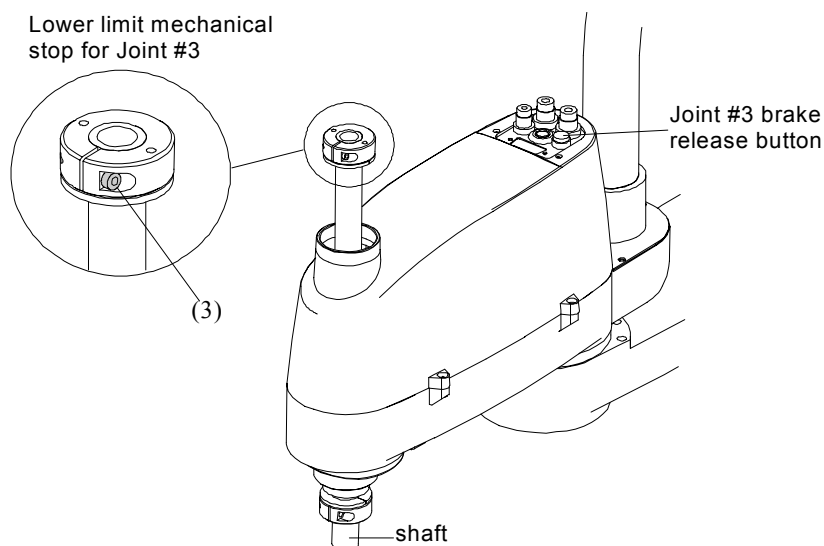

Figure 30. Mechanical stop for Joint #3
- (2) Turn OFF the controller.
- (3) The lower-limit mechanical stop is a split muff coupling fastened to the top of the shaft. Loosen the coupling's M4×15 bolt. (See Figure 30.)